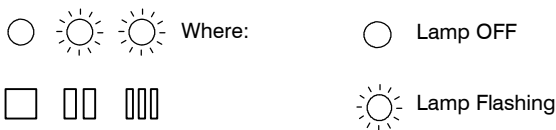

Fig. 9.12
- Turn ON the power supply. Lamps E give the indication as in Fig. 9.12.